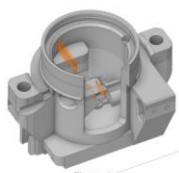

Figure 1
- Channels highlighted in orange as seen in Figure 1